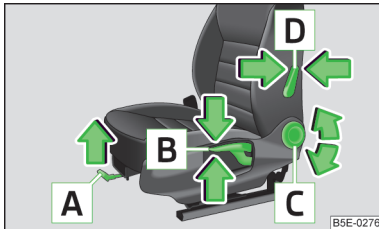

Fig. 46
Explanation of graphic » Fig. 46
- Pull the lever **A** » Fig. 46 in the direction of the arrow and push the seat in the required direction.
- Again push or pull the lever **B** » Fig. 46 in the direction of one of the arrows.
- Relieve any pressure from the seat backrest (do not lean on it) and turn the handwheel **C** » Fig. 46 in the direction of the arrow.
- Push the lever **D** » Fig. 46 in the direction of one of the arrow.